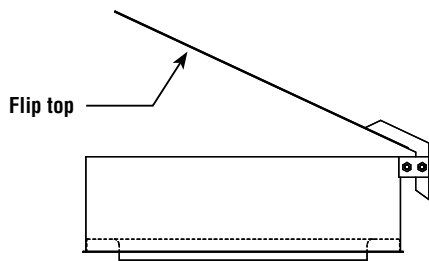

Figure 47 - Flip Top (FT)
1. Used in diesel or turbine exhaust, it prevents moisture and debris from entering the system. See **Figure 47**.